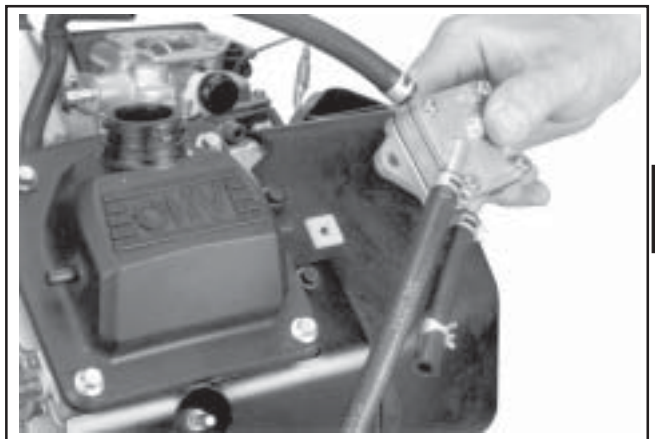

Figure 9-19. Remove Fuel Pump and Lines.
4. Note or mark the orientation of the fuel pump, then remove the fuel pump with lines attached as shown in Figure 9-19.